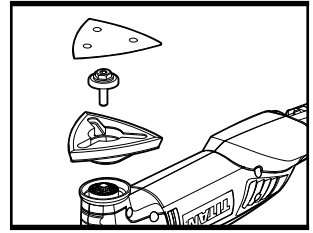

Fig. 5
2. MOUNTING / CHANGING THE SANDING SHEET (See Fig. 5)